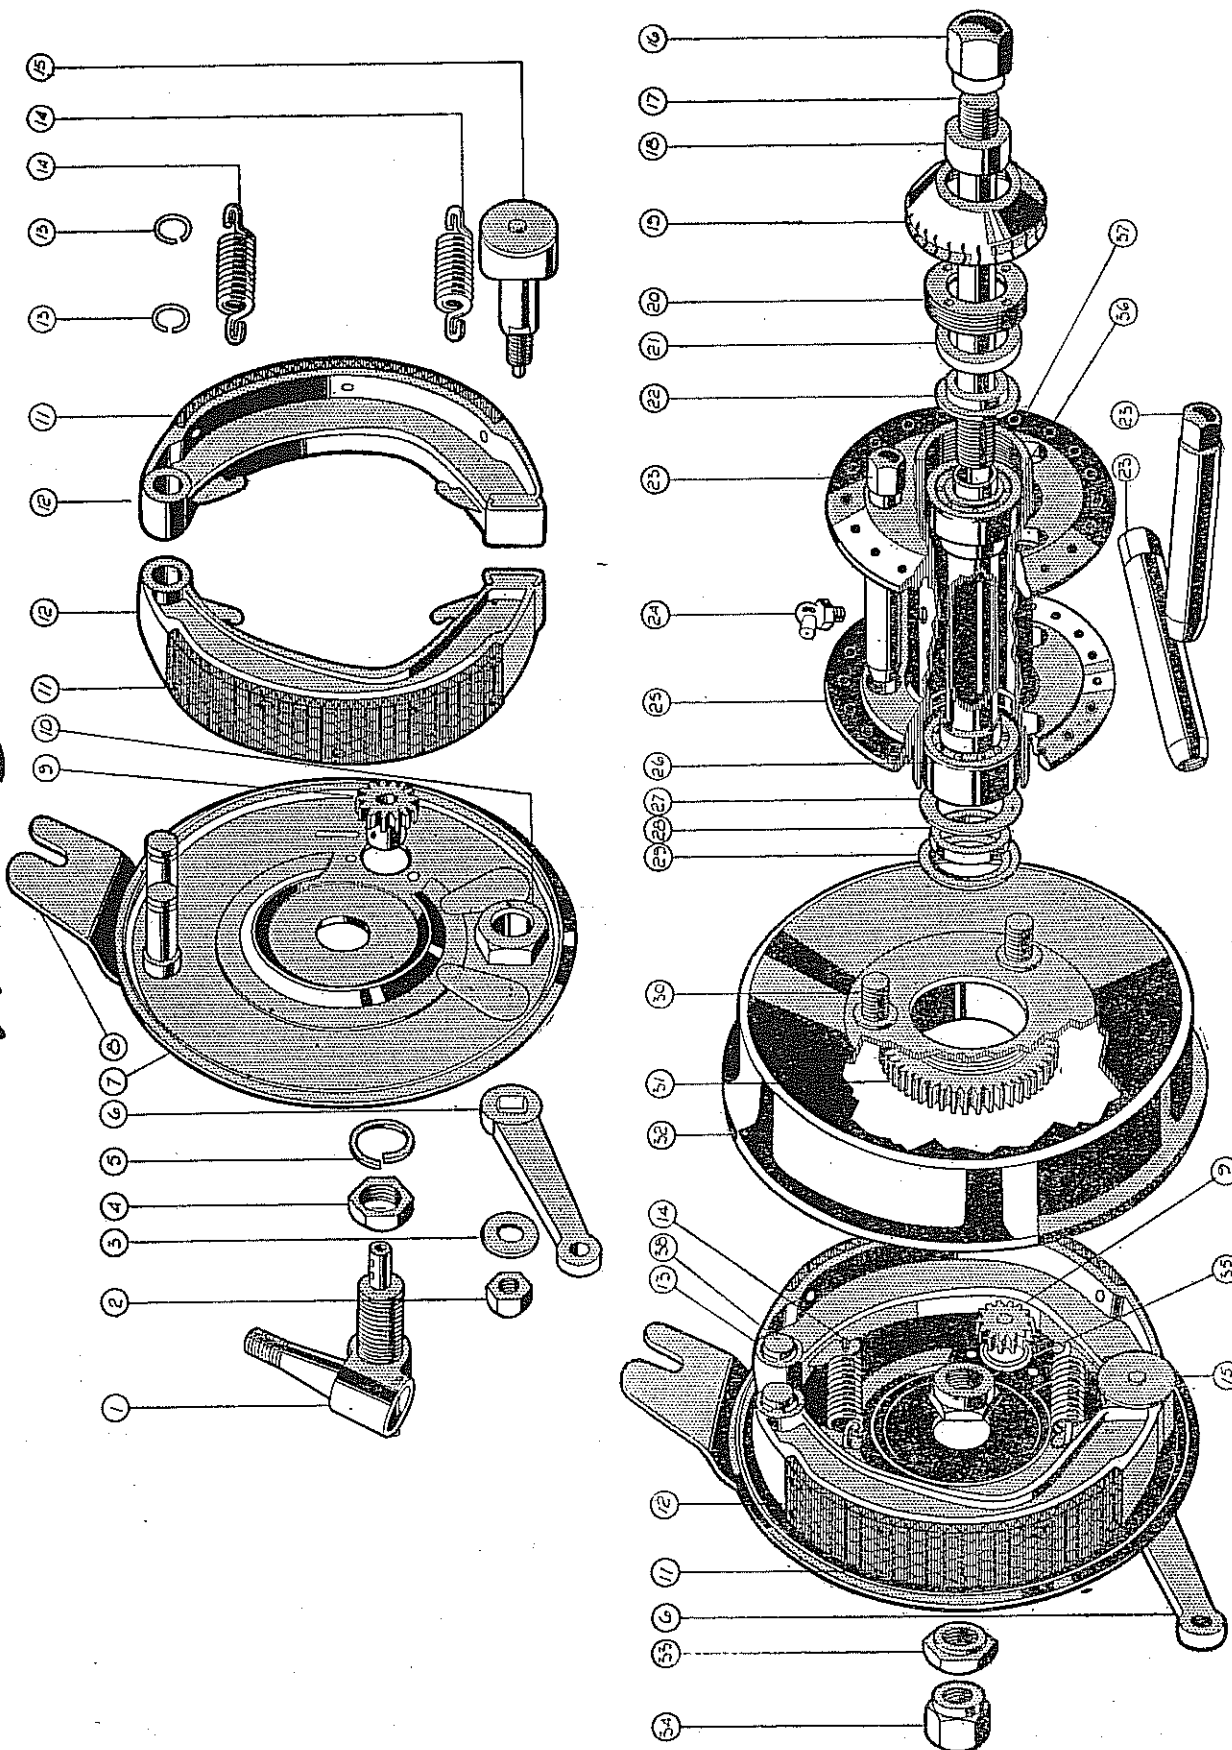

Fig. 38.
73. HUBS. (Figs. 38 and 39.)
Fit front wheel spindle to brake plate. The nut (see Fig. 38) with the collar is fitted before the plate with the collar away from the plate.